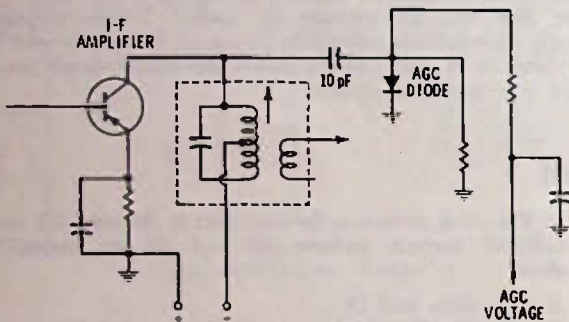

Fig. 11-10. Circuit for Question 11.
11. In Fig. 11-10, if the signal strength to the i-f amplifier increases, the agc voltage will increase in a